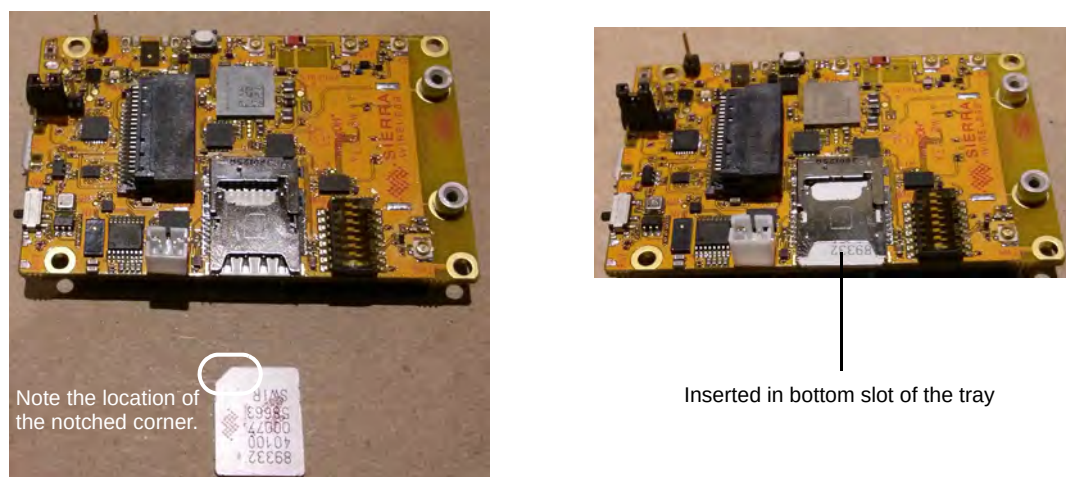

Figure 3-8: SIM Insertion
2. Insert the SIM card with contacts face-down into the desired slot—note the location of the notched corner of the card in Figure 3-8.